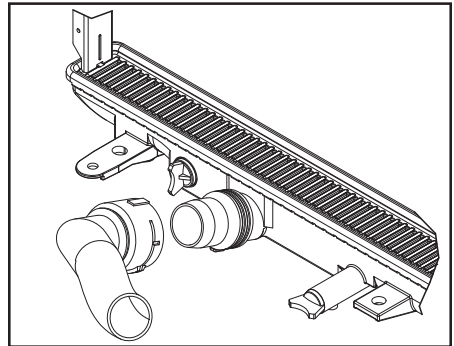

Fig. 2
- **Radiator Hose** – When replacing hose assemblies that utilize a hose lock, it is highly recommended to replace the hose assembly because wear and tear on the original hose may weaken the original hose, which could cause a fluid leak and subsequent engine damage if reused. (See Fig. 2)